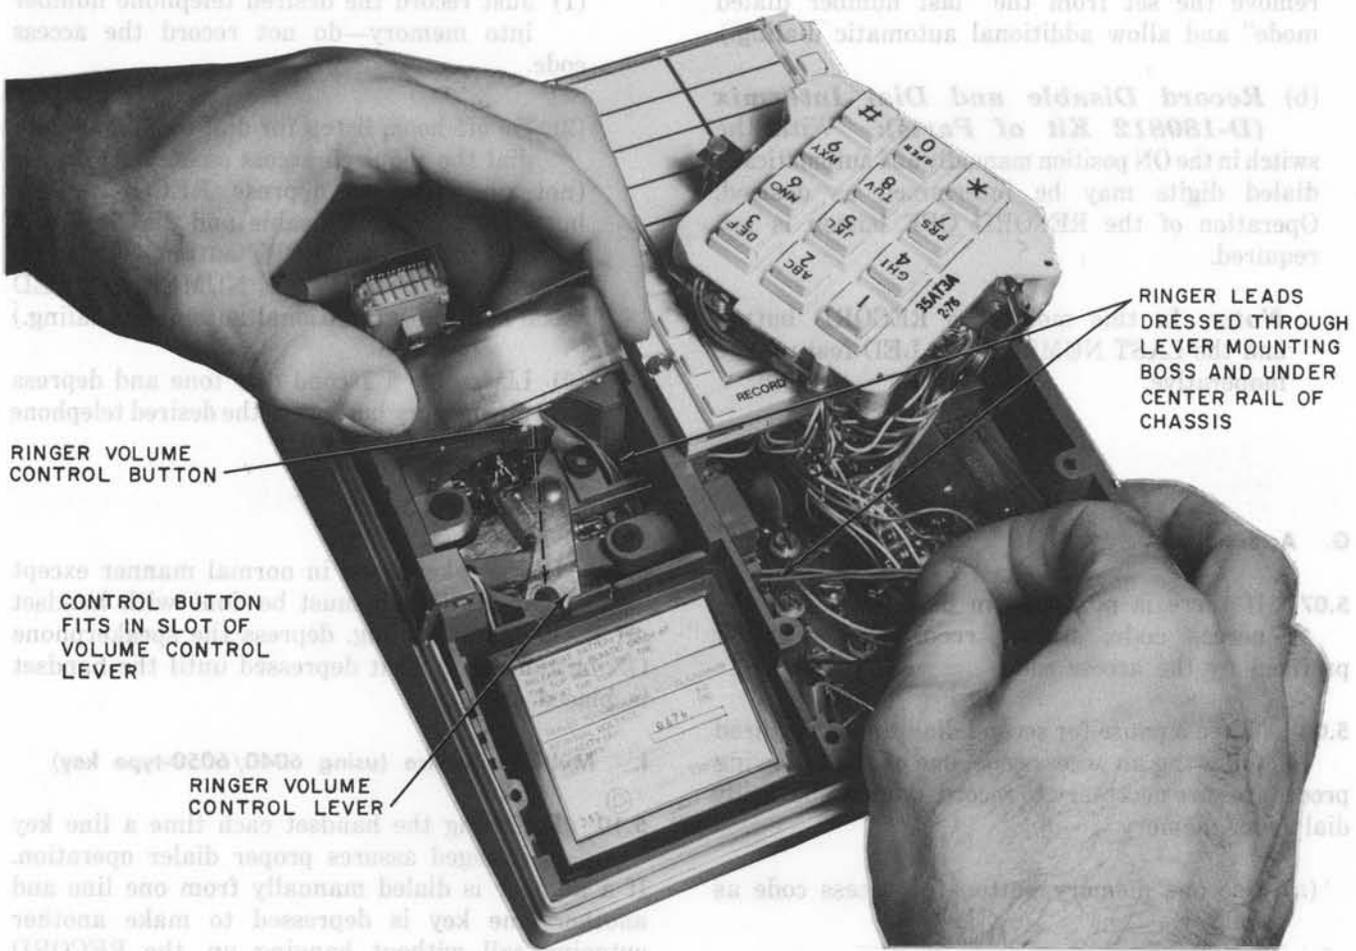

Fig. 10—Ringer Being Installed in 2960A01M Chassis With Dial Rotated onto Memory and Shield Removed
rotates clear, it may be placed on memory assembly with dial buttons up as in Fig. 10.
- (5) Temporarily replace the lower housing and place the set on its feet.
- (6) Remove the upper housing (paragraph 3.16).
- (7) Remove the dial [paragraph 3.18 (2) and (3)] and place aside (Fig. 10).
- (8) Disconnect the ringer leads and remove ringer.
- (9) Dress the leads of the new ringer through the ringer adjust arm mounting boss and under the center rail of the chassis, and connect to the appropriate terminals.
- (10) As the ringer is lowered into its mounting position, pull any slack in the leads through to the dial side of the center rail (Fig. 10).
- (11) Replace the dial.
- (12) Remove the lower housing. Holding the ringer in position, turn the chassis over to expose the clearance holes in the power supply board.
- (13) Attach one ringer mounting screw onto the blade of a screwdriver, (see preceding note).
- (14) Insert the ringer mounting screw into one location and secure ringer.
- (15) Align the ringer adjust arm over the ringer volume control button (Fig. 10).
- (16) Replace the remaining ringer mounting screw with the "special" screwdriver and tighten ringer into place.
- (17) Replace the housings, and shield, faceplate, and handset.
- (18) Dial appropriate code for ring-back to test the ringer.
- (5) Release the dial [paragraph 3.18 (2) and (3)] and place aside (Fig. 10).